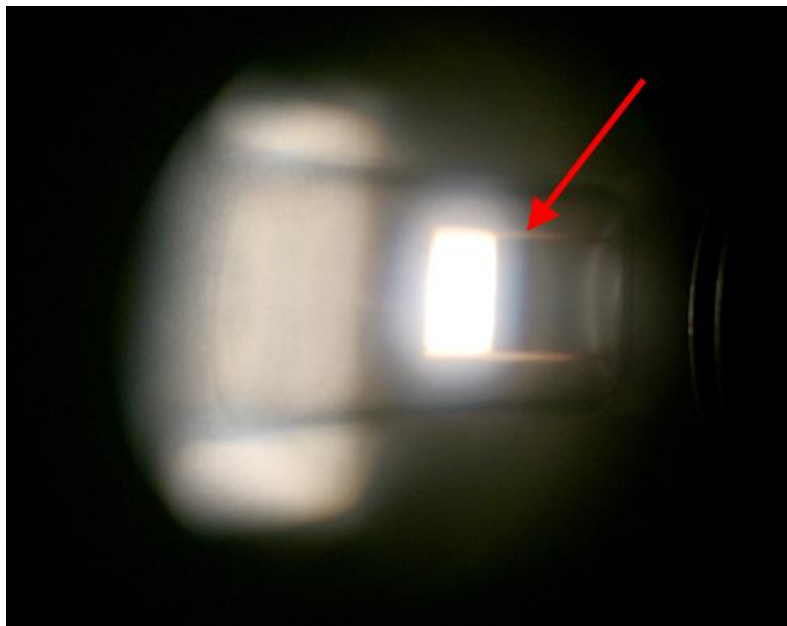

Figure 42: Primary image of QTH lamp filament after adjusting condenser lens assembly.
7. Move the adjustment lever so that it rotates about the cylindrical condenser lens assembly until the filament of the QTH lamp can be clearly seen on the backdrop placed in front of the TLS. The final position of the Adjustment Lever should be at the position which outputs the sharpest filament image on the backdrop, which is usually closest to the lamp housing as possible. The spiral shape of the lamp filament should be visible on the backdrop, as shown in Figure 42. This image is referred to as the "primary image".